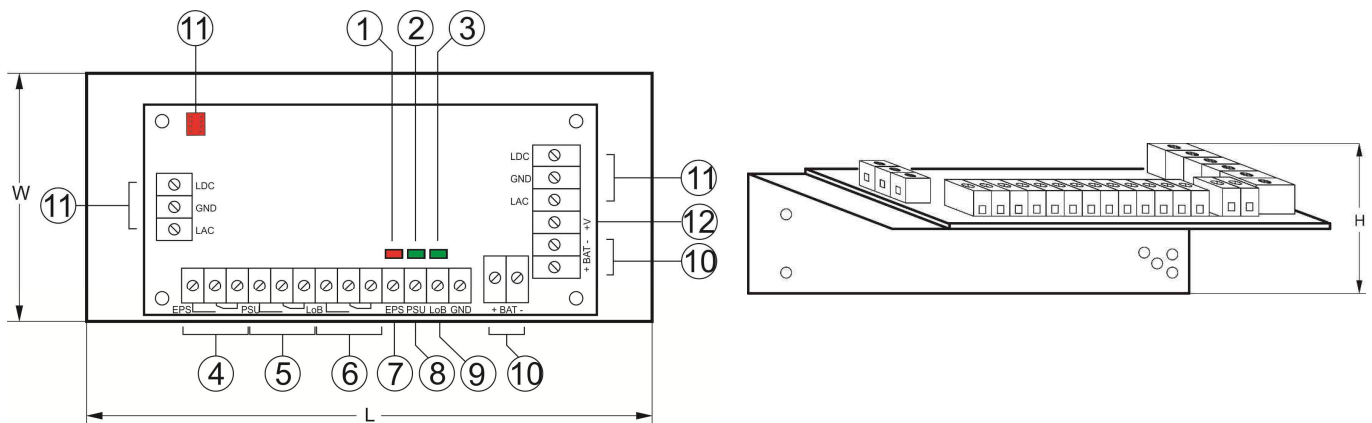

Fig. 1. The view of the module.
1.2. Description of the module's components and connectors (fig1, tab.1)
LED indication: - presence of AC power - presence of DC voltage at the PSU output - battery voltage level	- red LED (fig.1, element 1). Under normal status (AC supply) the diode is permanently illuminated. The absence of AC supply is indicated by the AC diode going out. Caution: the LED indicates absence of AC power if the loss lasts minimum 10s. - green LED (fig.1, element 2) indicates DC power at the PSU output. Under normal status the diode is permanently illuminated. In case of a short circuit or an overload, the diode is off. - green LED (fig.1, element 3) indicates battery voltage level. Under normal status ($U_{BAT} > 11.5V$) the diode is permanently illuminated. In case of decrease of battery voltage ($U_{BAT} < 11.5V$) the diode is off.